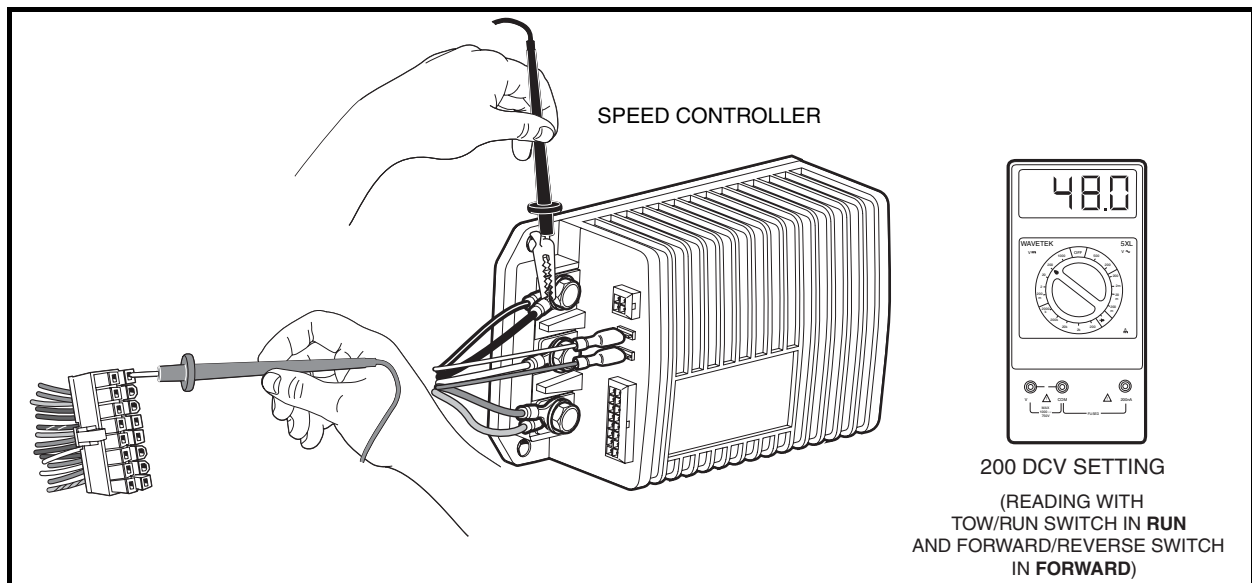

Figure 11-17 Pins 8 and 16 Test
4. Set a multimeter to 200 volts DC, insert the red (+) probe of the multimeter into pin 8 (brown wire) of the 16-pin connector. **See following CAUTION.** Using an alligator clip, connect the black (–) probe to the B–terminal of the speed controller (**Figure 11-17, Page 11-32**).